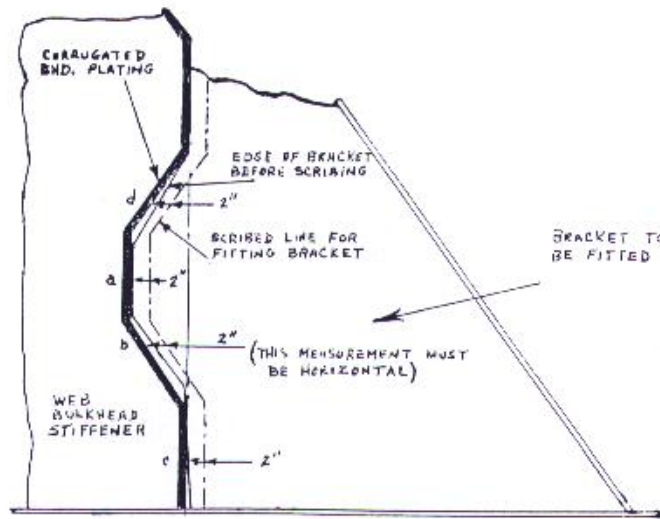

FIG. 10 -- Scribing a Plate to fit Bulkhead Corrugations
**SCRIBING AT CORRUGATED BULKHEAD** ----When it is necessary to scribe a large bracket or other plate to fit in the corrugations of a bulkhead, the following precautions must be taken to assure a neat fit. The bracket shown in Fig. 10 must be scribed off to move 2" to the left. If there were no corrugations, this would be a simple matter of marking a vertical line on the bracket with a 2' spacer to give the proper cut.
This line would be similar to that shown at "a" and at "c" in Fig. 10. However, the sloping sides of the corrugations, as at "b" and "d" cannot be marked off with the same 2' spacer, because the opening thus burned out would be too large. The measurements for scribing at the sloping surfaces (that is at "b" and "d") must, therefore, be taken in a horizontal direction as shown.